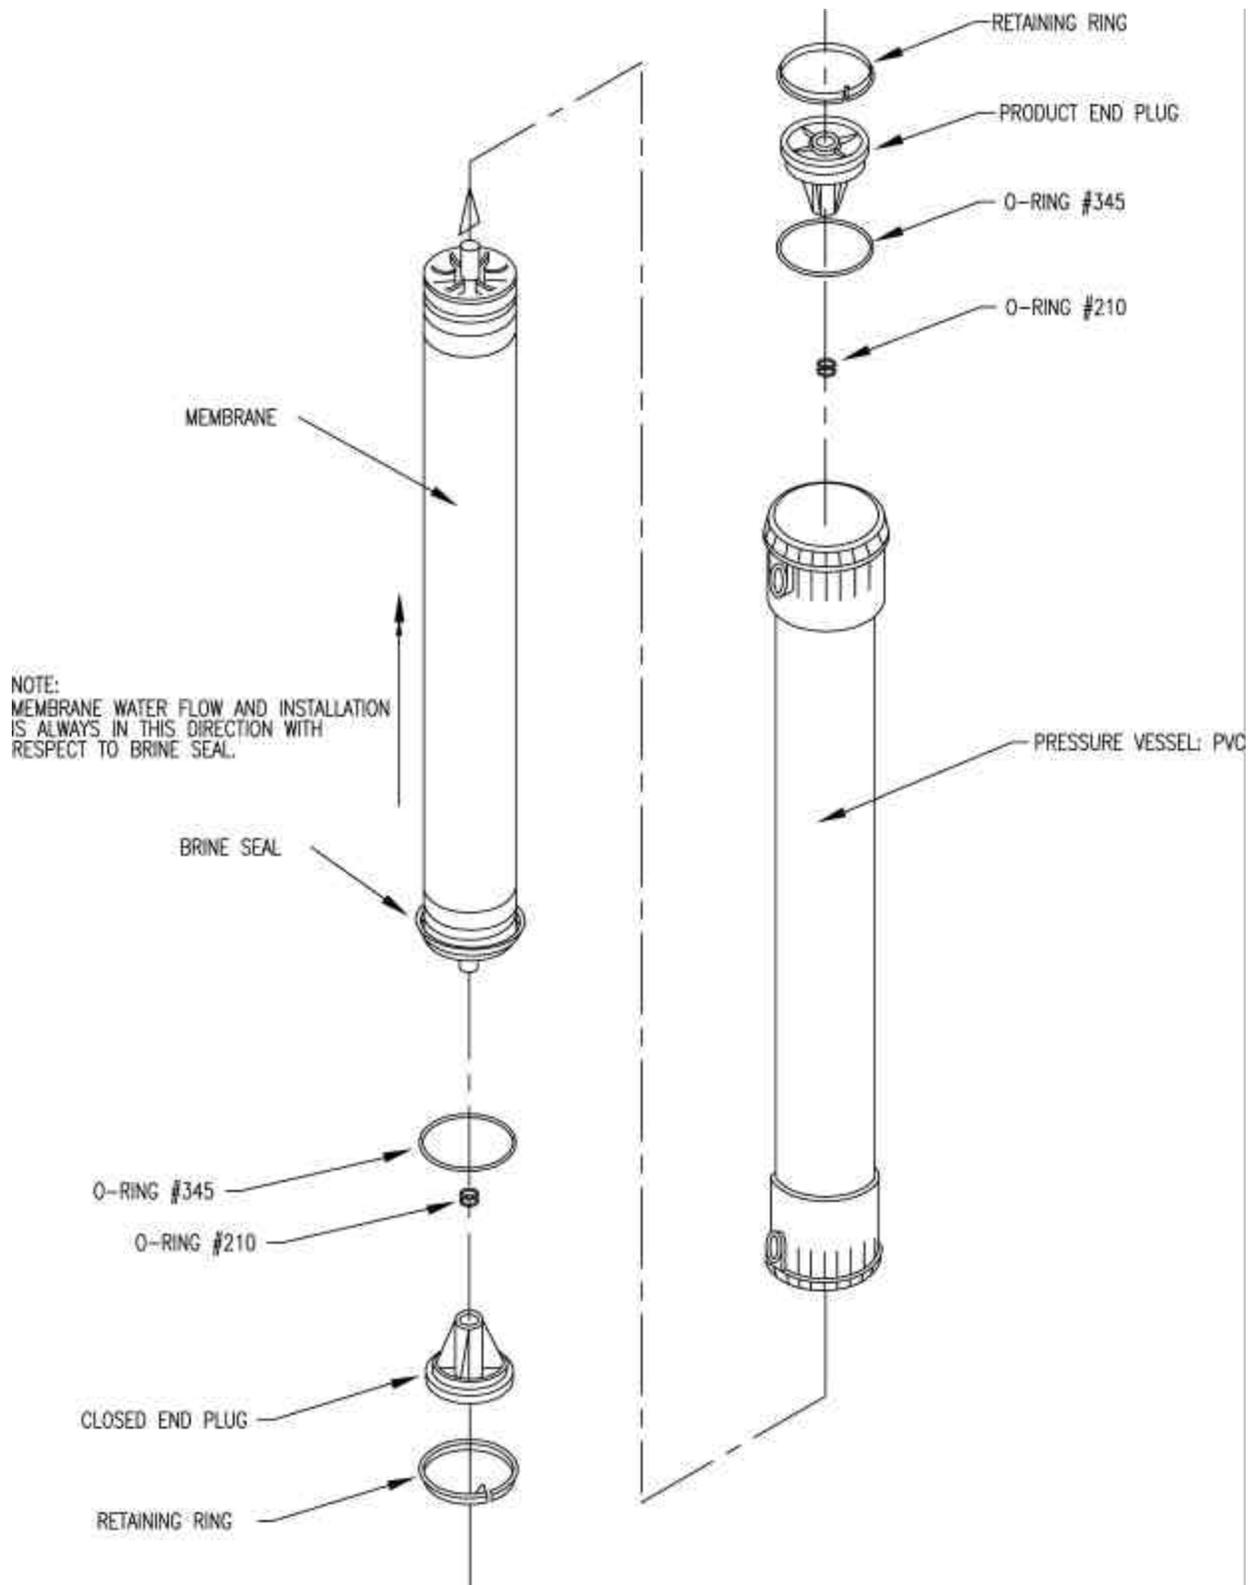
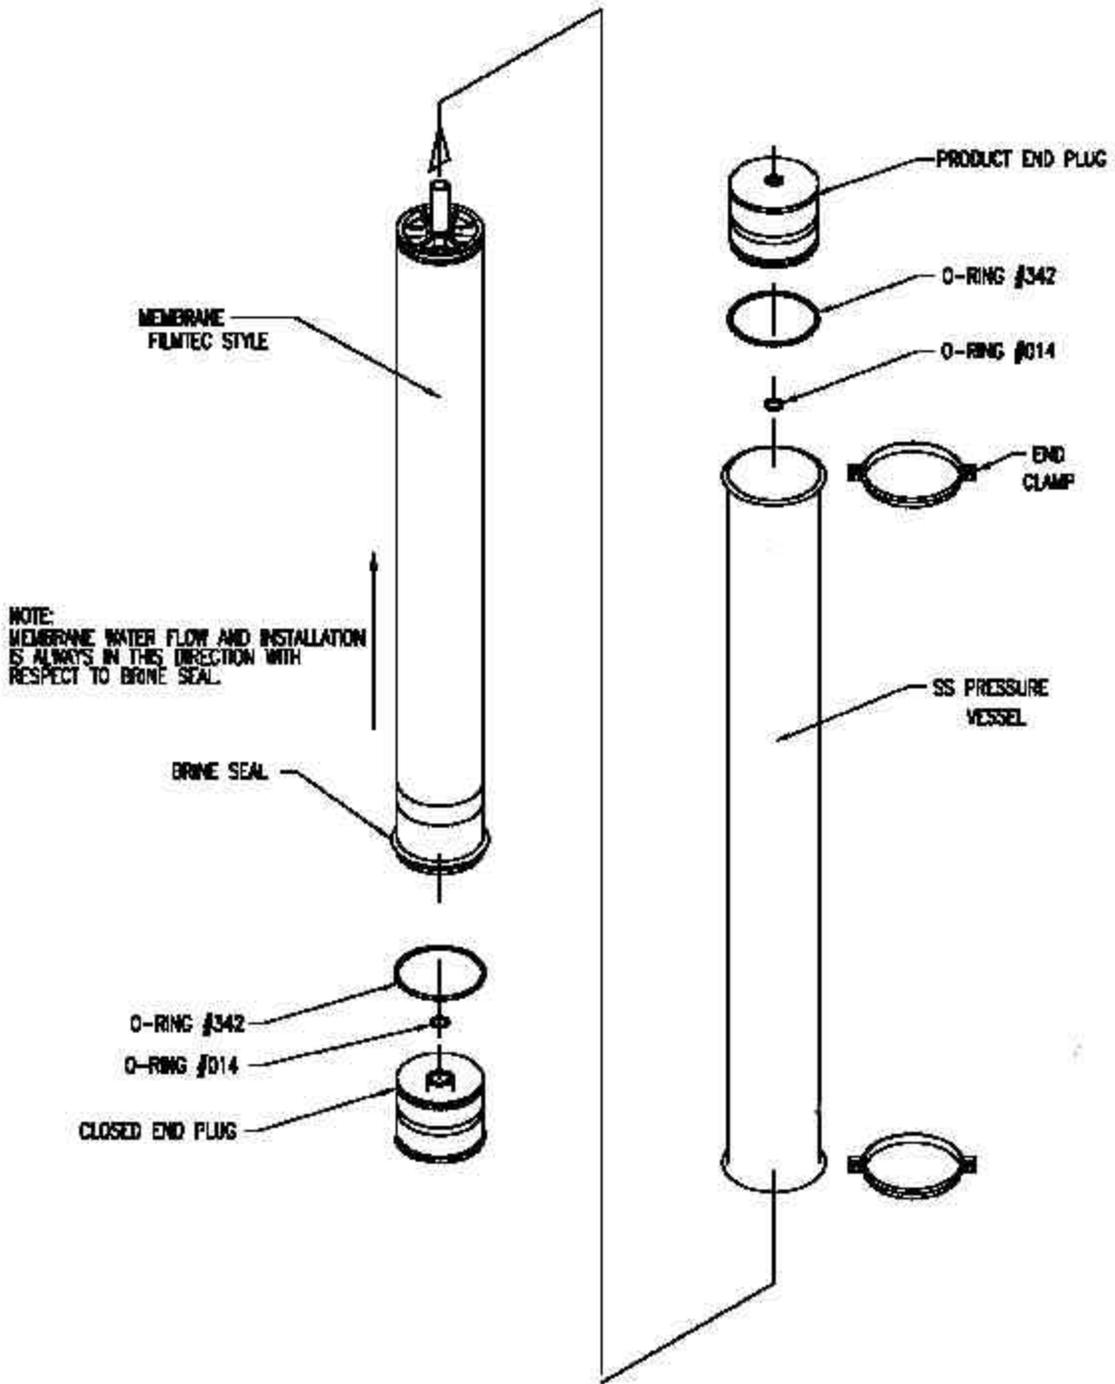

Figure 4. PVC Vessel/Membrane Assembly
Figure 5. Stainless Steel Vessel/Membrane Assembly
7.3 MEMBRANE REPLACEMENT (See Figures 4,5)
- For the SS vessels (figure 5) remove the half clamps. If optional PVC vessels are installed (figure 4) remove the end plug retaining ring by pushing the nubbin on the ring toward the center of the vessel and working around to remove it from the groove in the vessel.
- Lubricate the brine seal on the inlet end of the new membrane. Install new membrane into the feed end of vessel in the direction shown in Figures 4 or 5. Note the brine seal end.